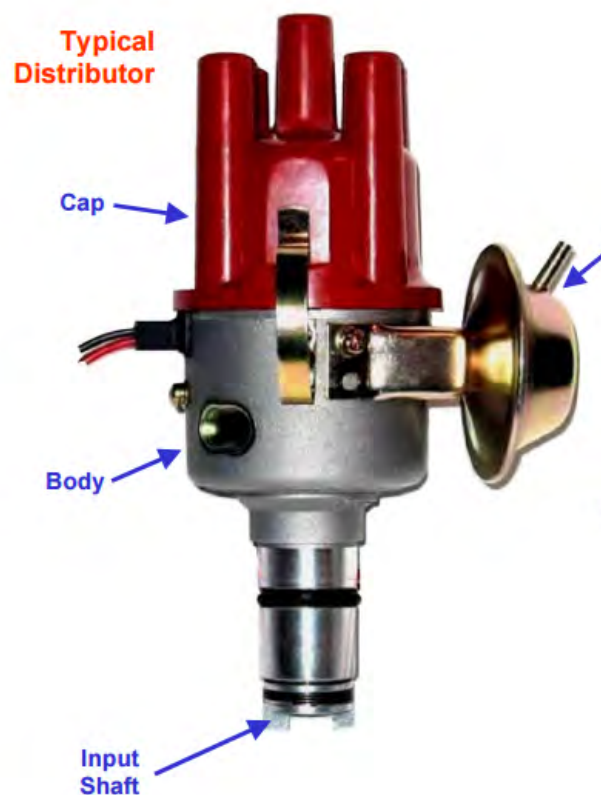

Figure 3.12: *Distributor assembly*
This is the unit in the ignition system which directs the high-voltage current produced in the secondary winding of the coil to the spark plugs in the correct firing orders. The higher-tension cable (HT) which is insulated with PVC or thick rubber connects the ignition coil to the distributor and to the spark plugs. Figure 3.12 shows a distributor assembly.